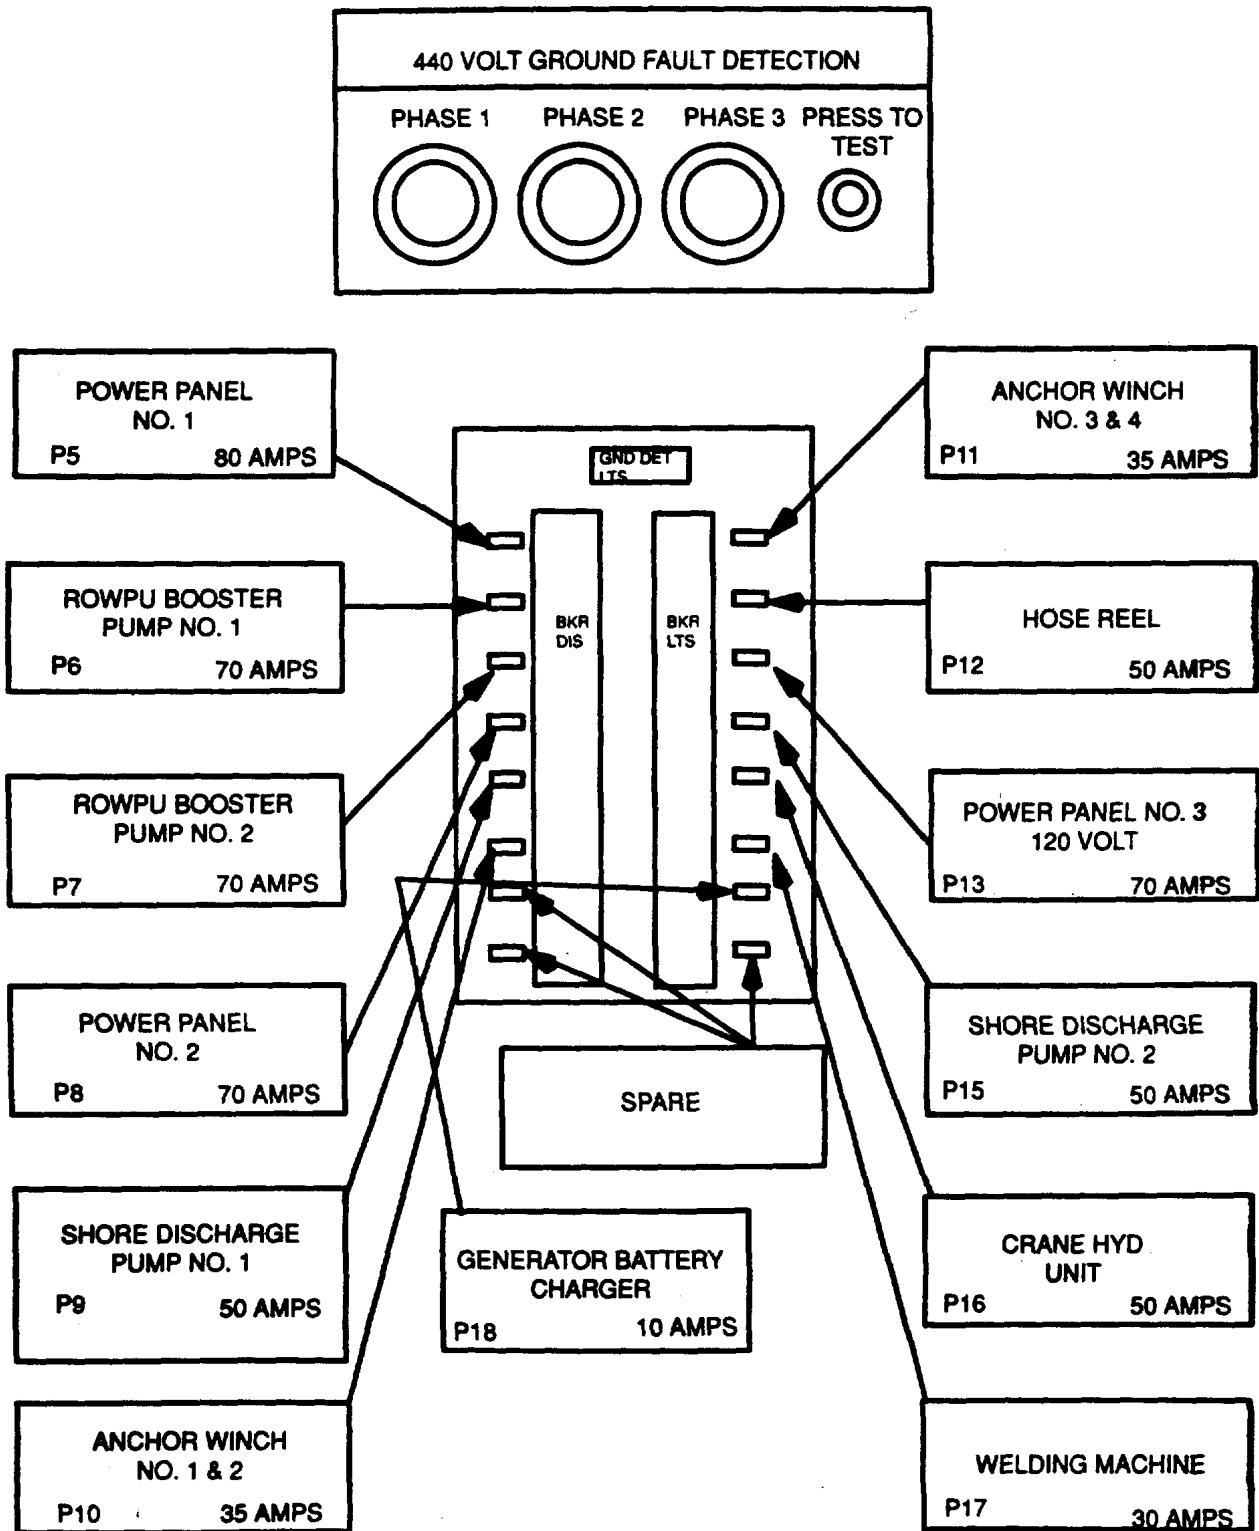

Figure 3-10. Location of Circuit Breaker P12 on Switchboard
- f. Close (ON) switchboard hose reel circuit breaker P12 (Figure 3-10) supplying power to hydraulic unit, electrical motor, and controls.